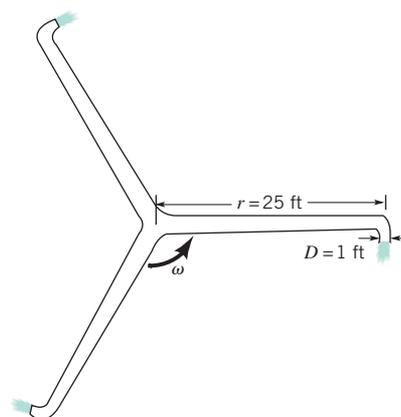

FIGURE P5.65
5.65 (See Fluids in the News article titled “Tailless helicopters,” Section 5.2.4.) Exhaust gas from a tailless helicopter turbojet engine flows through the three 1-ft-diameter rotor blade nozzles shown in Fig. P5.65 at a rate of 500 ft3/s. Determine the angular velocity of the rotor if the torque on the rotor is negligible.